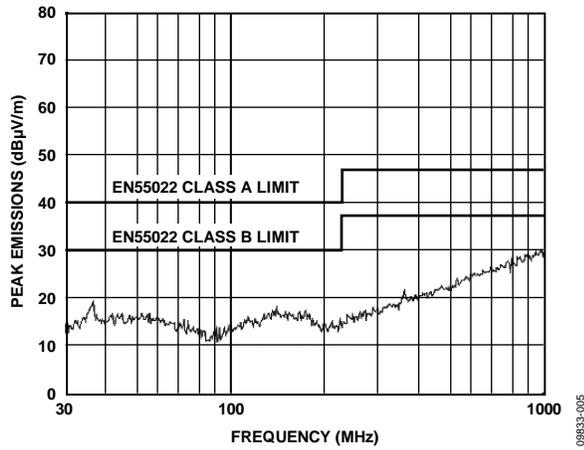
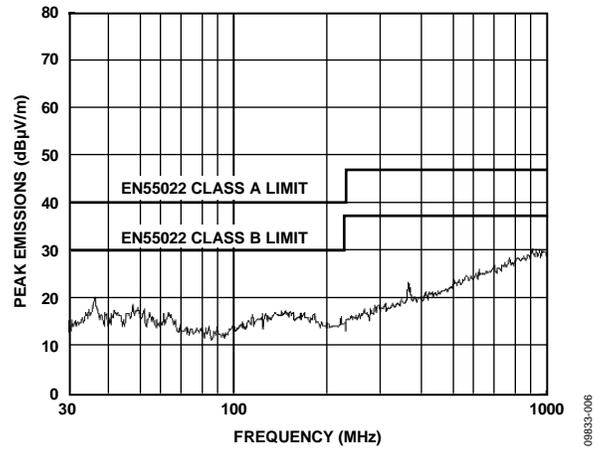

Figure 5. Horizontal Scan From 30 MHz to 1000 MHz
Figure 6. Vertical Scan from 30 MHz to 1000 GHz
Added Figure 5, Figure 6, and Table 25
The EVAL-ADM3053EBZ evaluation boards are configured and tested with 5.0 V power supplied to the ADM3053 V_{IO} pin and V_{CC} pin, with the power supplied from the ADP667ARZ regulator output. The ADP667ARZ regulator input is supplied from a standard 9 V battery. Testing is performed with an active 500 kbps clock on the TXD pin supplied by an on-board oscillator fitted to U2. The ADM3053 CAN bus pins are loaded with a 60 Ω termination resistor (per a double terminated bus). Measurements are carried out in an anechoic chamber at 10 m from 30 MHz to 3 GHz. Figure 5 and Figure 6 show the results of the peak horizontal and vertical scans, and Table 2 shows the tabulated quasi-peak (QP) results.